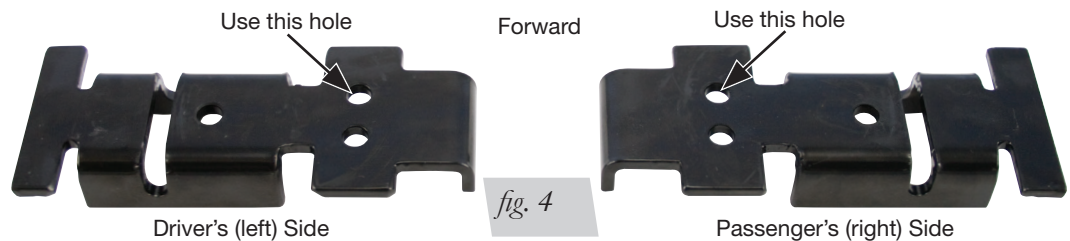

fig. 4
4. LOOSELY install the 3/8” lock washer (N) and 3/8”-24 x 7/8” hex head cap screws (M). Leave loose to allow installation of the upper bracket.
5. Attach the lower bracket (C) to the bottom of the air spring. Use the forward, inboard hole as shown in Figure 4.